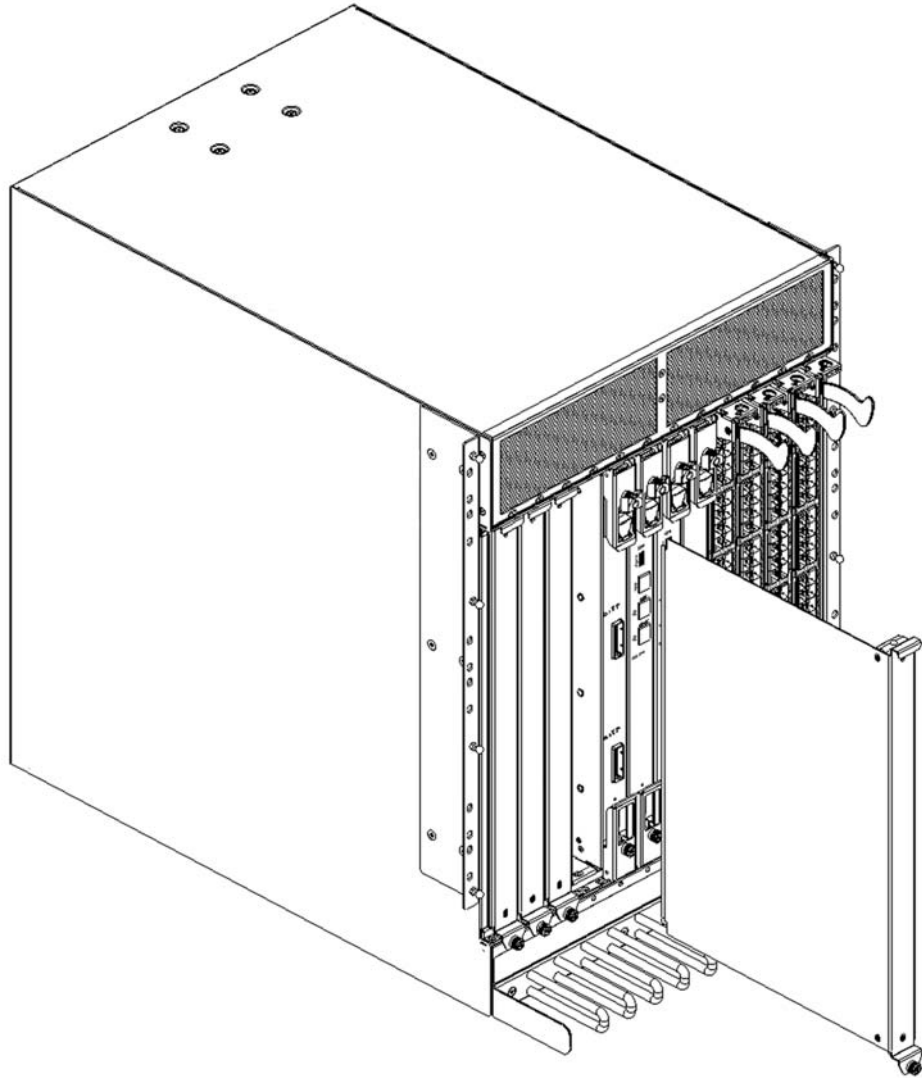

Figure 32. Filler panel removal and installation
3. Pull the filler panel out of the chassis. (See Figure 32 on page 76.)